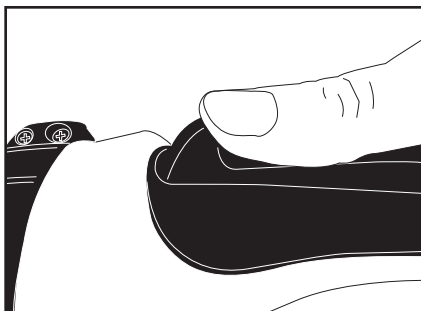

Figure 14
2. Push the trigger that your thumb rests on straight forward, this is the safety release or switch lockout. (see figure 14)